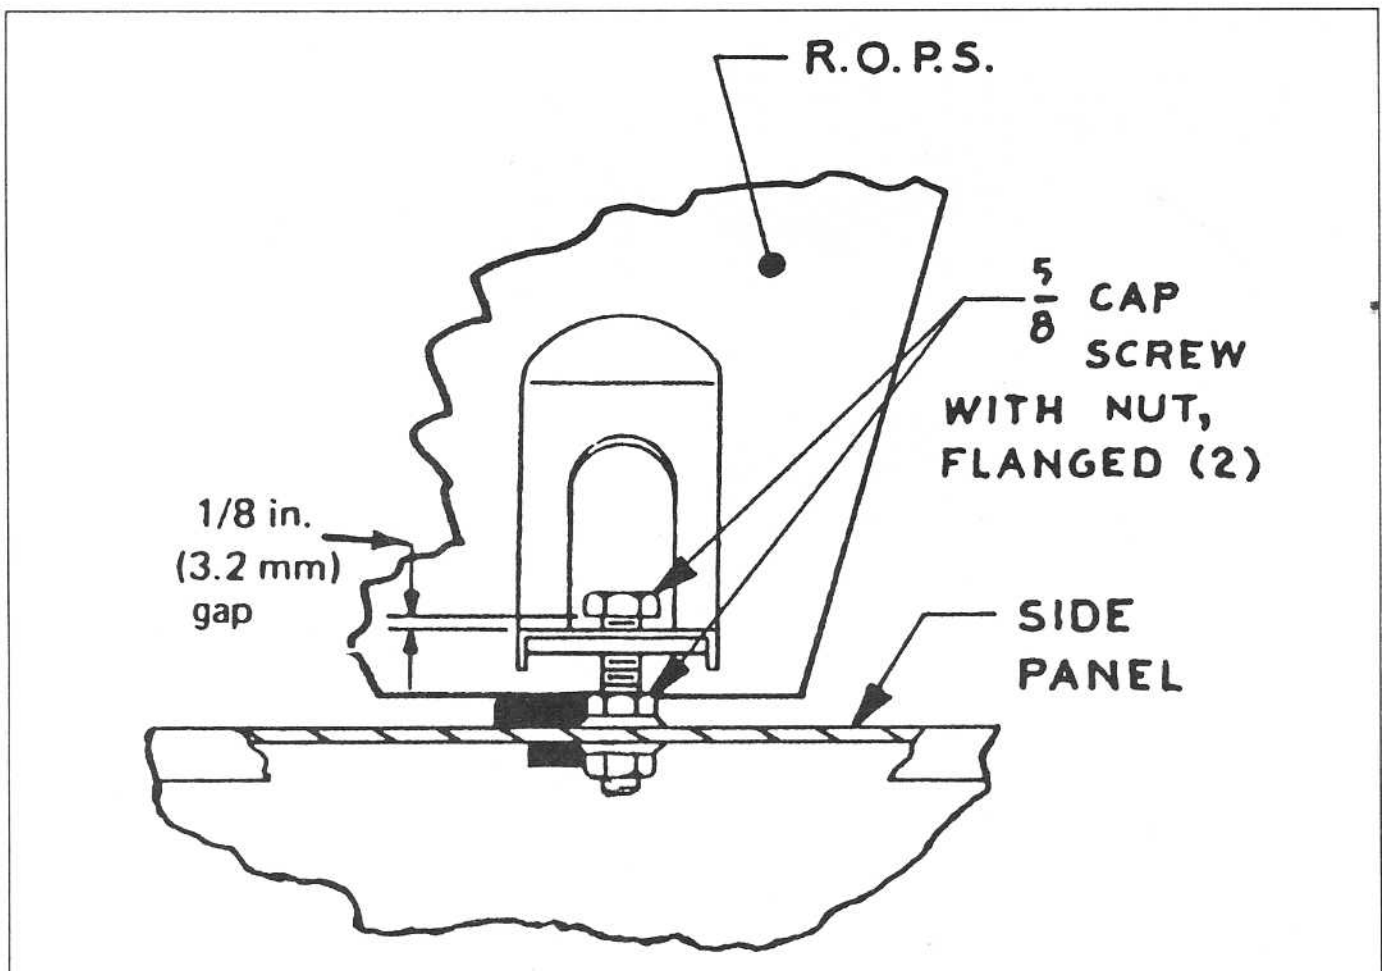

Figure 1-3
4. Torque the four (4) 1/2 inch nuts (front corners and rear wall) to 75 ft. lb. (102 Nm).
5. The lower bolt on each side has a jam nut system for tightening. The head of the bolt **MUST NOT** make contact with the ROPS. Clearance of 1/8 inch (3.2 mm) to 1/4 (6.4 mm) inch should be maintained. Torque the jam nut to 150 ft./lb. (203 Nm). (See figure 1-3)